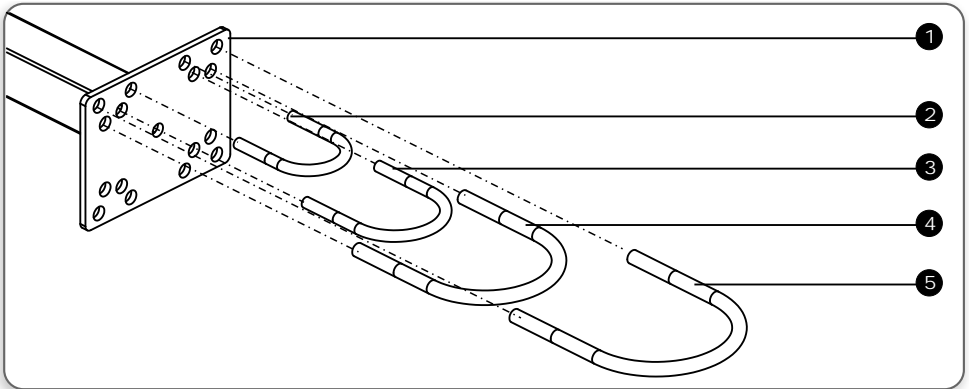

FIGURE. 4. U-BOLTS THAT CAN BE CATERED FOR BY THE FIXED BRACKET
- If the bracket is to be fitted onto a post, then refer to Figure 4 for an indication of the size of the u-bolts, washers and nuts needed. The Solar Panel Mounting Bracket is suitable for mounting onto posts with a width or diameter of 40mm to 100mm
- Secure the entire assembly to the post using the appropriate size u-bolts. Refer to Figure 4 for an indication of the size of the u-bolts to be used.
6. Alternatively, if a post (either cylindrical or square) is to be used for mounting, secure the gooseneck to the post using the appropriate size u-bolts. Refer to Figure 4 for an indication of the size of the u-bolts to be used.